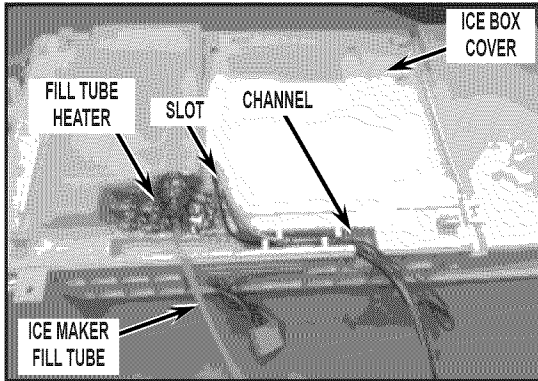

FIGURE 14
18. Remove foil fill tube heater from the ice maker fill tube on the ice box and discard. See *Figure 14*. If your ice box assembly had a revised ice box fascia with fascia heater, you will need to remove the wires and grommet from the ice box cover.
19. Remove all wires from channel on ice box assembly. See *Figure 14*.
20. Use a straight blade screw driver to remove 5, 1/4" screws securing the ice box cover to the ice box assembly. Remove ice box cover while guiding ice maker harness through slot in ice box cover. See *Figure 14*.
21. Remove ice maker fill tube by pushing into ice box cover. Push ice maker fill tube into new ice box cover, be sure orientation is correct. Feed ice maker harness through slot in new ice box cover. See *Figure 14*.